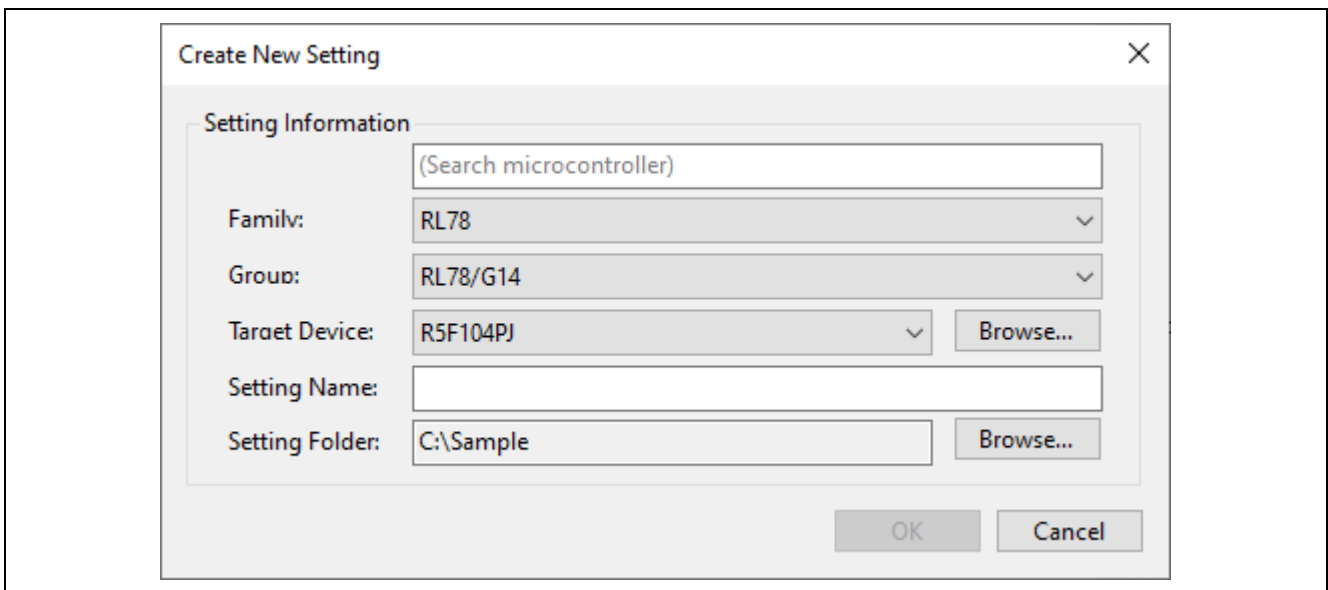

Figure 4.28 [Create New Setting] Dialog Box
2. Create a new setting file. Select the family, group, and type name of the target device, and enter a setting name as shown in Figure 4.28, and click on the [OK] button.